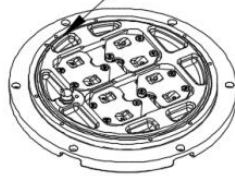

Figure 4-17
- Wash the waste in the seal groove with water or ethyl alcohol to keep the seal groove clean (see Figure 4-17);